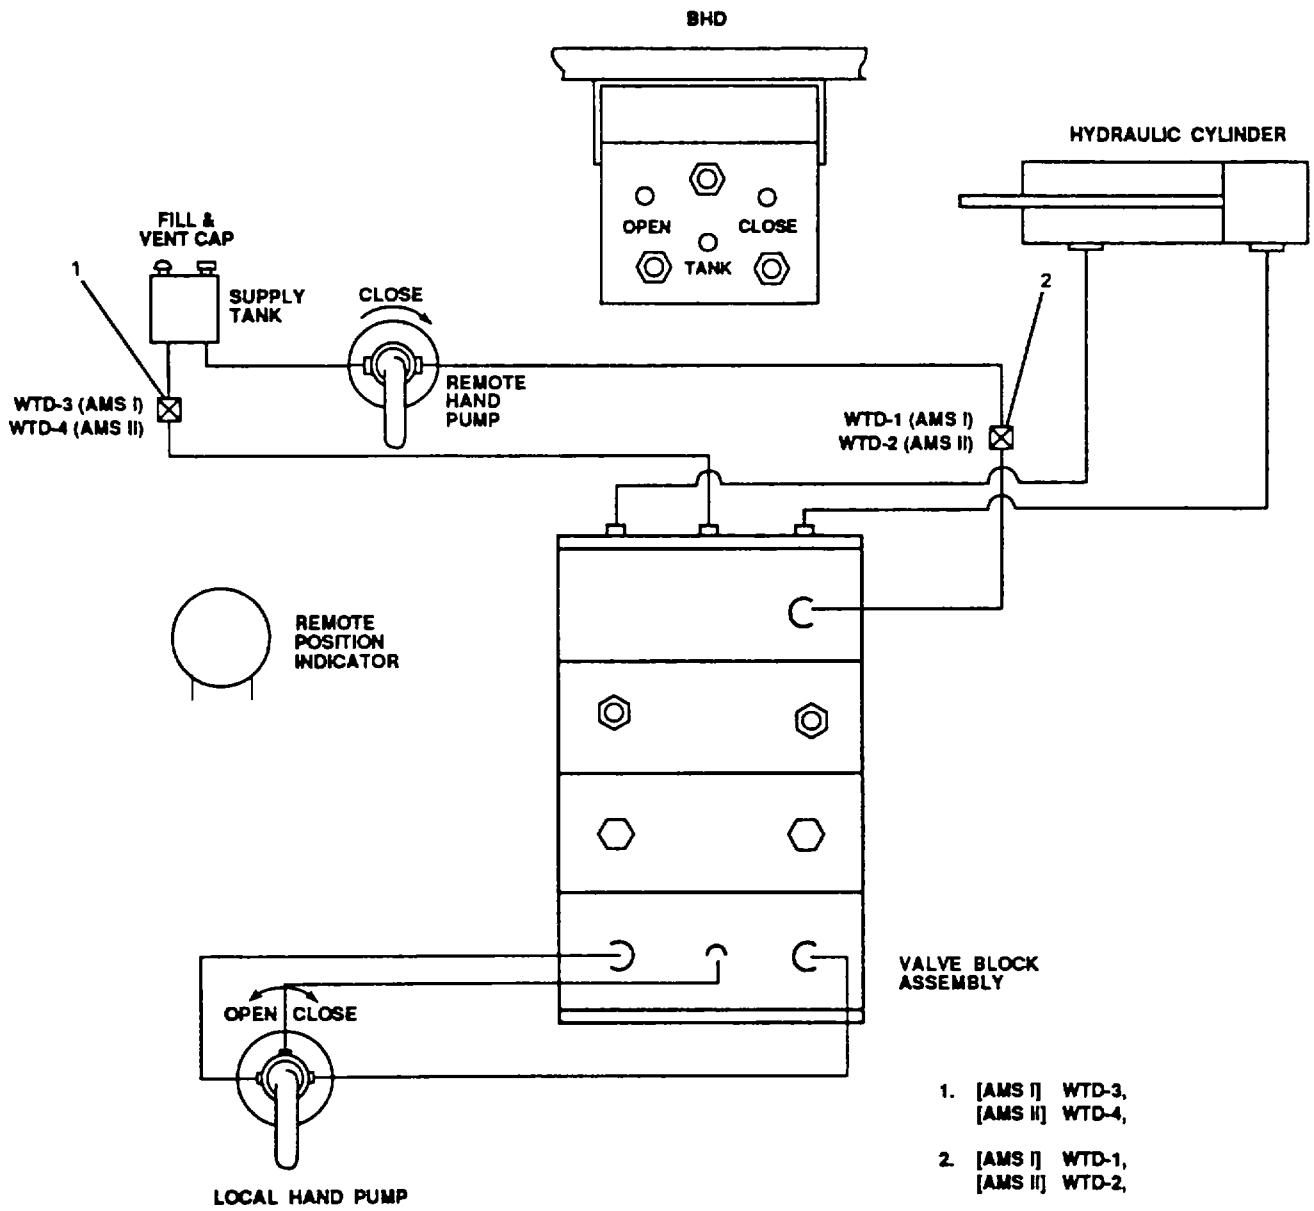

Figure 1-3. Hydraulic Sliding Door.
b. Sliding Watertight Doors (Figure 1-3). Two sliding watertight doors are provided. One between AMS 1 and the engine room and another between AMS 2 and the engine room. These doors are used to seal off bulkheads in case of emergency. The doors are flametight and watertight. They can be operated from hand pumps at a remote location or from hand pumps on either side of the door. The door is powered by a hydraulic cylinder. Power is supplied by the hand pumps. The hand pumps located on either side of the door control the opening and closing of the door, depending on the direction the hand pump is rotated. The remote hand pumps are located in the main deck vestibule and main deck passageway. These pumps can only close the door. An expansion tank, remote position indicator and two valves are mounted on the bulkhead near each remote hand pump. The tank provides hydraulic fluid necessary for the system. The remote position indicator shows the position of the door (open and close). The valves are locked open to provide hydraulic fluid to the cylinder.